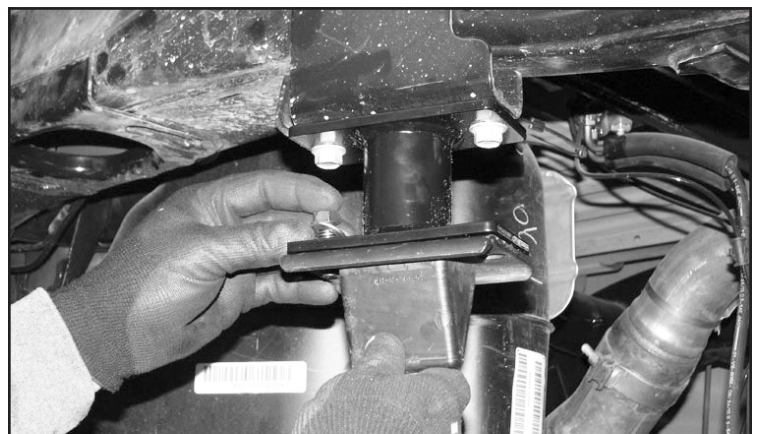

FIGURE 49 - STEP 43
43. Install the FT44268BK (Bumpstop spacer) with the factory bolts that were removed during disassembly. Then, install the factory bump stop onto the spacer bracket using the supplied 7/16" X 1-1/4" hardware. Torque to 58 ft-lbs. **SEE FIGURE 49**